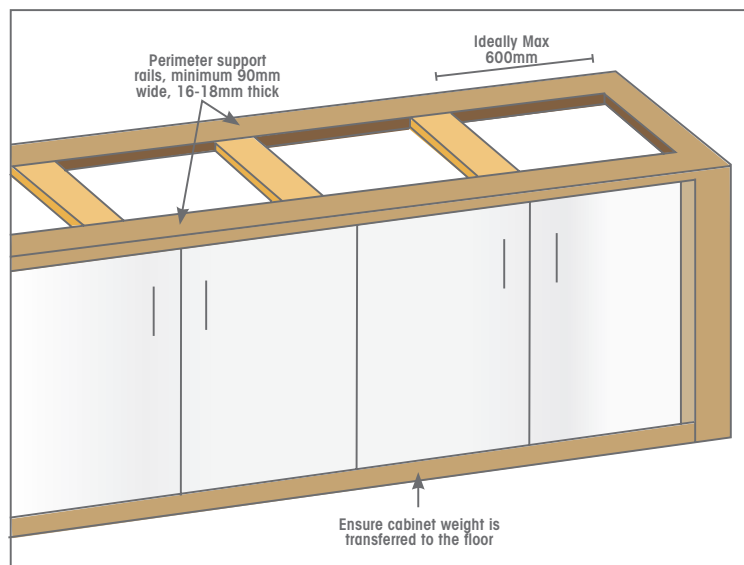

Fig. 3
- Cabinets must be constructed from solid panels 16mm thick (minimum), ensuring the weight transfer from the benchtop to the floor is carried out through each end gable or division (Fig. 3).